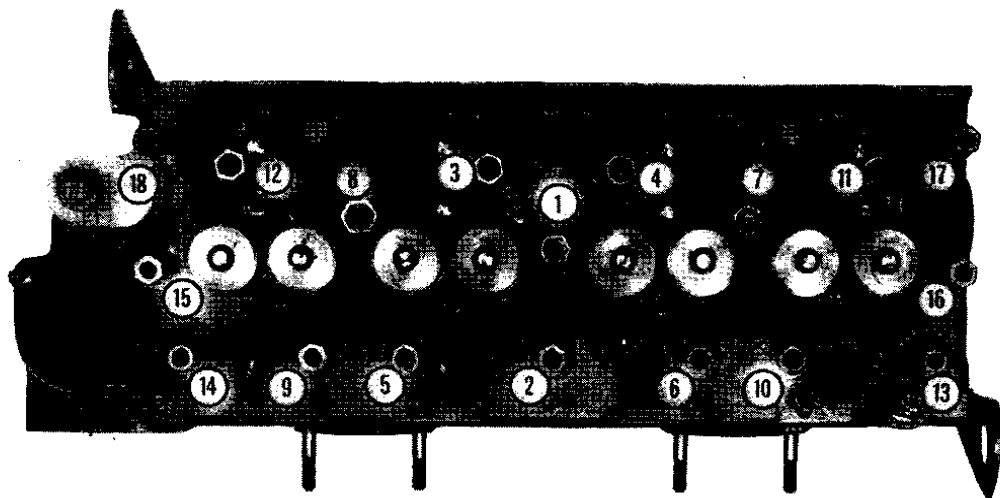

Fig. 1.
2. Remove the rocker assembly; tighten the cylinder head nuts in the correct sequence (see Fig. 1) and to the correct torque of 55—60 lbf ft (7,6—8,3 kgf m).